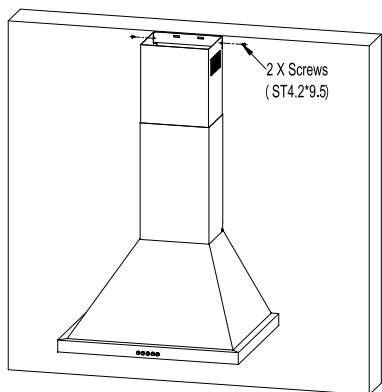

Fig.9
- Fix the extension chimney. See Fig.9.